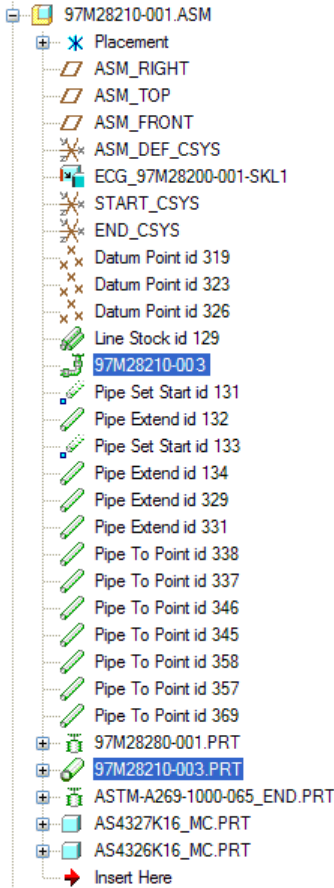

Figure 5
- Select **Pipeline**> **Create/Route**> and enter a name (It is good practice to name the pipeline with the same name that will be given to the solid pipe part. See Figure 5) to create a pipeline feature, then select the linstock from the side menu.